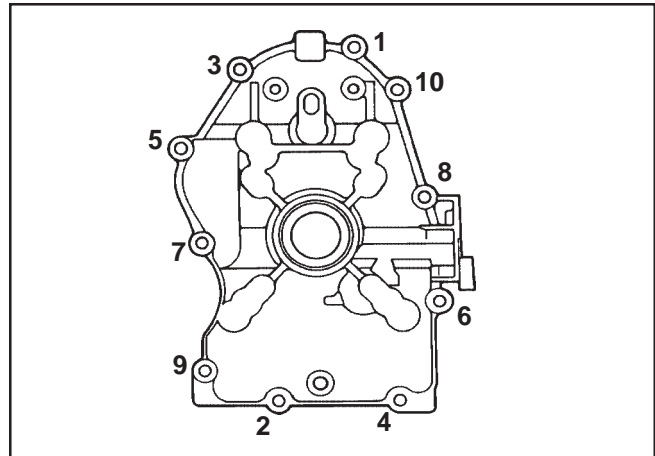

Figure 11-18. Oil Pan Fastener Torque Sequence.
6. Install the ten hex flange screws securing the oil pan to the crankcase. Torque the fasteners in the sequence shown in Figure 11-18 to **24.4 N·m (216 in. lb)**. On some engines one of the ten mounting screws is plated. The plated screw is typically installed in the #6 hole shown in Figure 11-18.